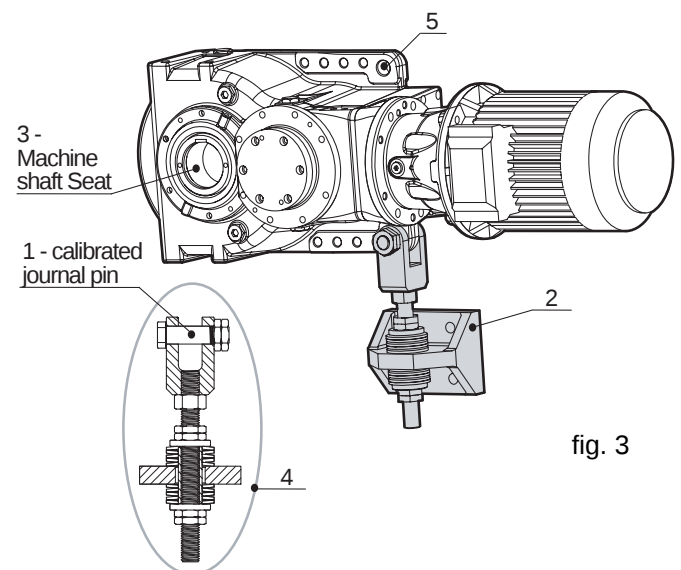

fig. 3
Secure the reaction rod to the machine structure (pos. 2) and tighten with anchor bolts (minimum recommended class 8.8) to the torque value indicated in the "torque setting" table in section 9.1 (see Fig. 3).